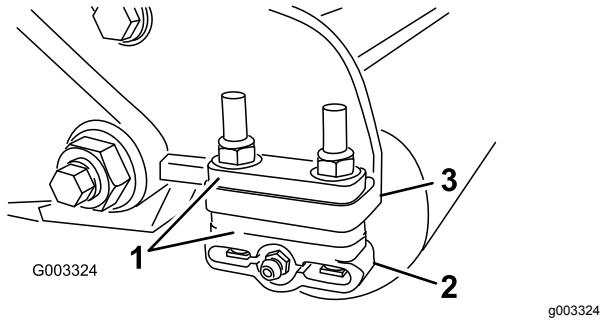

Figure 15
1. Adjust the rear roller brackets (Figure 15) to the desired height-of-cut range by positioning the required amount of spacers below the side-plate mounting flange (Figure 15) per the HOC Chart.